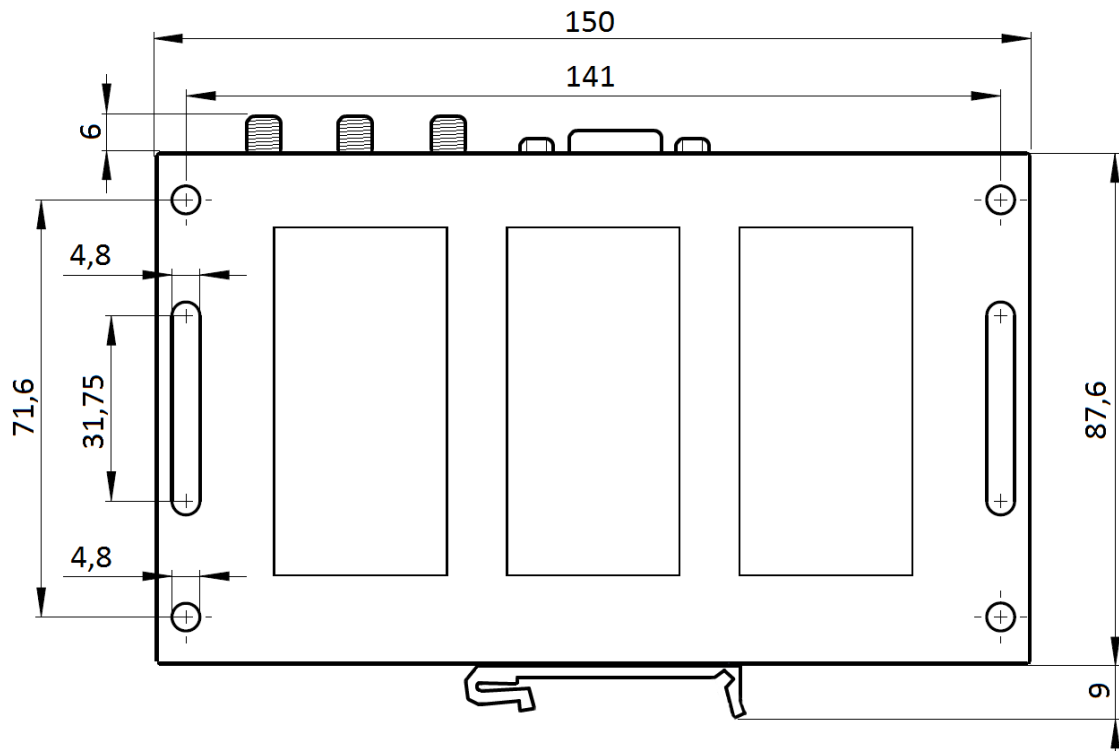

Figure 10: Bottom view
- mount the router on a wall using four holes in corners (Figure 10) and screws with diameter 4 mm,